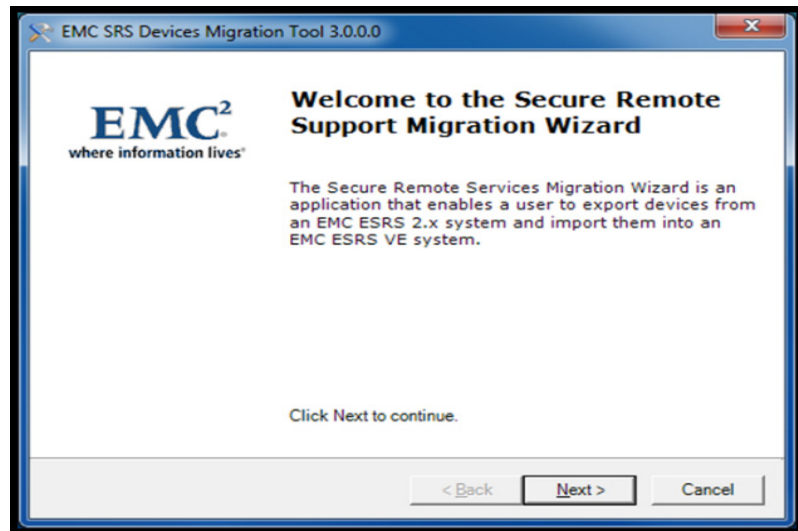

Figure 120 Migration Tool wizard
2. Right-click on the executable and select **Run As Administrator**. The Migration Tool wizard appears, as shown in Figure 120 on page 97.